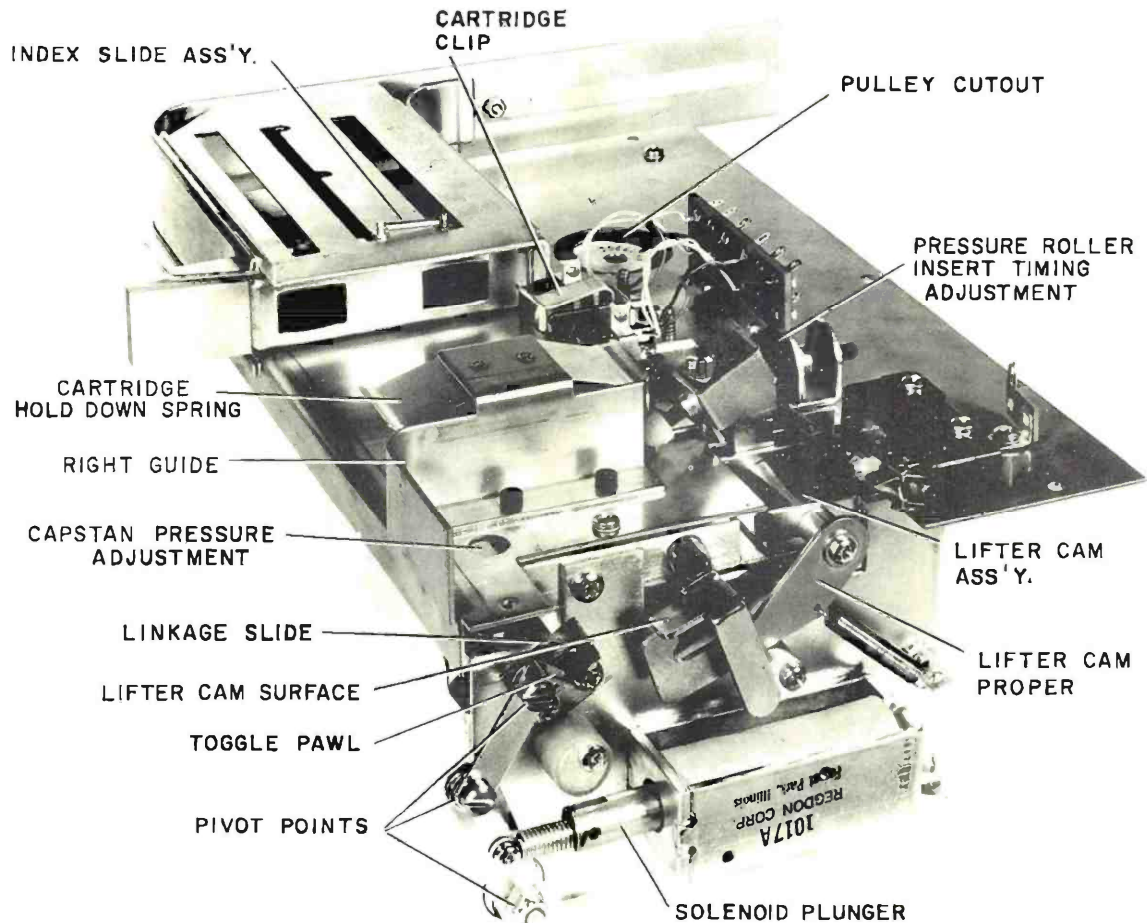

FIG. 1
2. A fine oil may be used to lubricate the motor and capstan bearings. Molykote Type G, should be used to lubricate the following. Refer to Fig. 1.
2. To clean the capstan and pressure roller the top cover of the unit must be removed. The lifter cam may then be used to raise the pressure roller above the tape deck surface for easy cleaning. Refer to Fig. 1. Use a cotton swab moistened with wood or isopropyl alcohol and clean the capstan and pressure roller surfaces. Inspect the roller for free turning on the bearing and degradation of the rubber parts. If the roller is worn or deformed, inadequate pressure will produce wow, poor starting and slow speed. Replace with Gates part #730-0307-000.